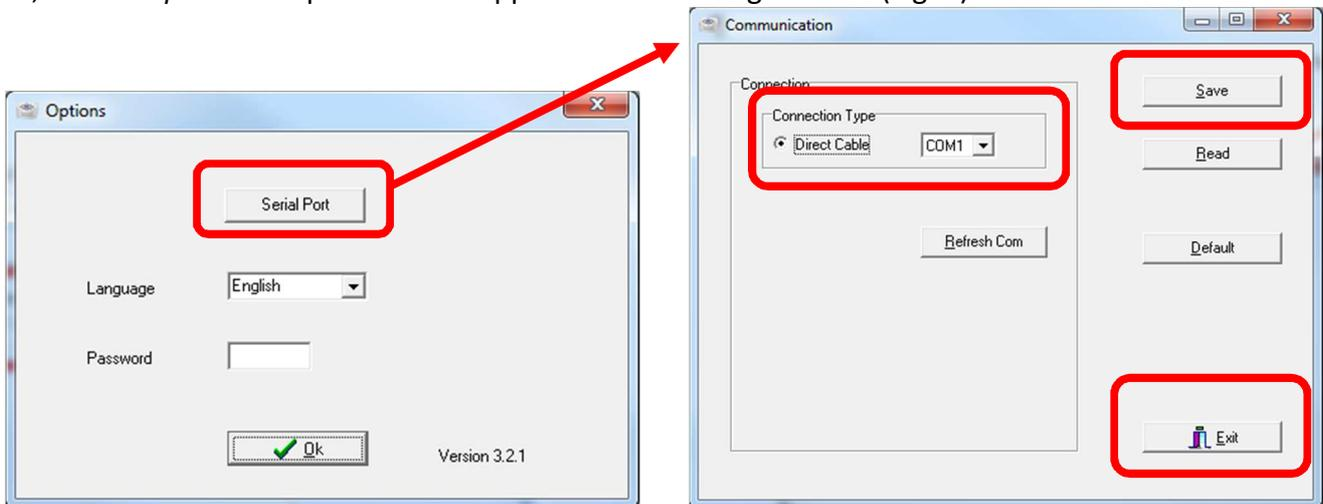

Figure 2
- First, select “Option” in Option Menu. Appears the following window (Fig. 2).
- When required insert the password (if any) or just click OK; select the serial port at which the converter is connected (for example in Fig. 2 is selected COM1). Click “Save” then “Exit”.
Sometime may be useful to click on “Refresh Com” command (see Fig. 2) or close and restart the software.